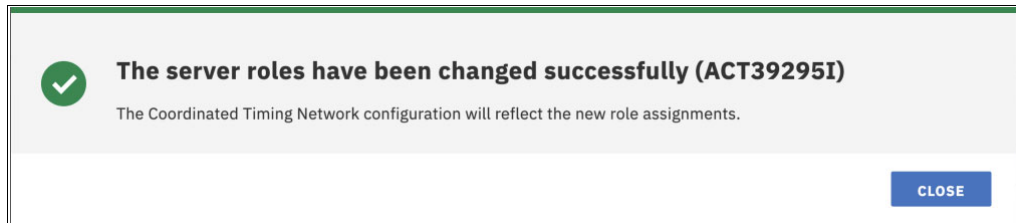

Figure 3-33 Modify server roles task success
7. Upon successful completion, the message shown in Figure 3-33 is displayed. Click **CLOSE** to finalize the task.